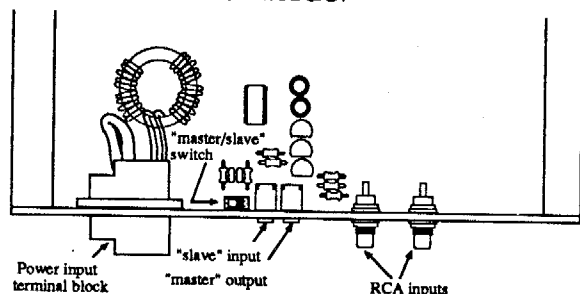

Figure 8
2. Inside the amplifier is a PCB mount slide switch very near to the front panel (see figure 8) and off to the left. Moving the switch to the left, towards the power input connector puts the amplifier into the **"master" mode** of operation. Moving the switch to the right, towards the RCA input connector's (blue dot) puts that amplifier into the **"slave" mode**.